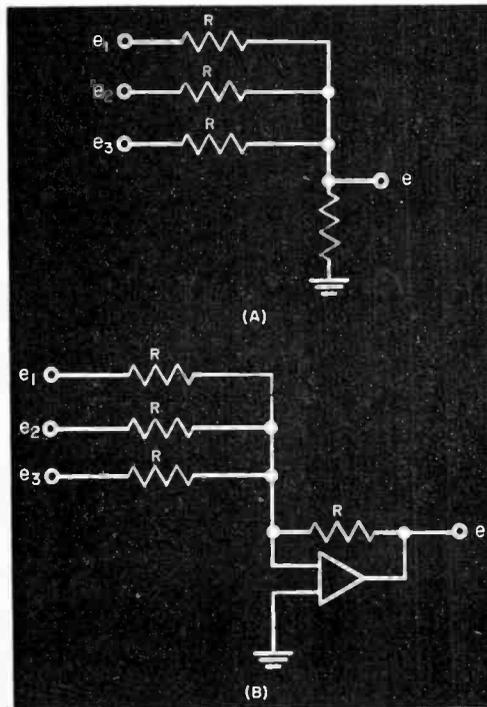

Fig. 1. Analog computer feeds value measurements into input (A), where *e* is analog of sum of voltages e_1 , e_2 , e_3 . In (B), amplifier is shown in circuit.
Simpler and More Direct. Analog computers are, in a fundamental sense, more direct and simple than digital computers. An analog computer is not, ordinarily, a high-precision device. As an example, a circuit such as that in Fig. 1(A) will illustrate a simple operation.
Amplifiers are used in many electronic analog computers, as shown in (B) of Fig. 1. Here the output voltage is the actual sum of the input voltages. These are high-gain stages suitable for many operations.